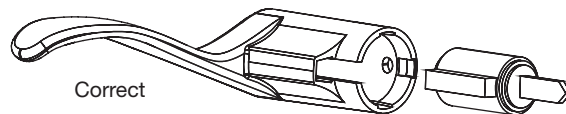

Figure 3A
- A. Insert key in cylinder (outside lever handle); rotate key 90° clockwise.
- C. Insert cylinder in "new" outside lever (Fig. 3A).
NOTE: "Swoop" of lever handle must be oriented in upward direction as shown in Fig. 3A